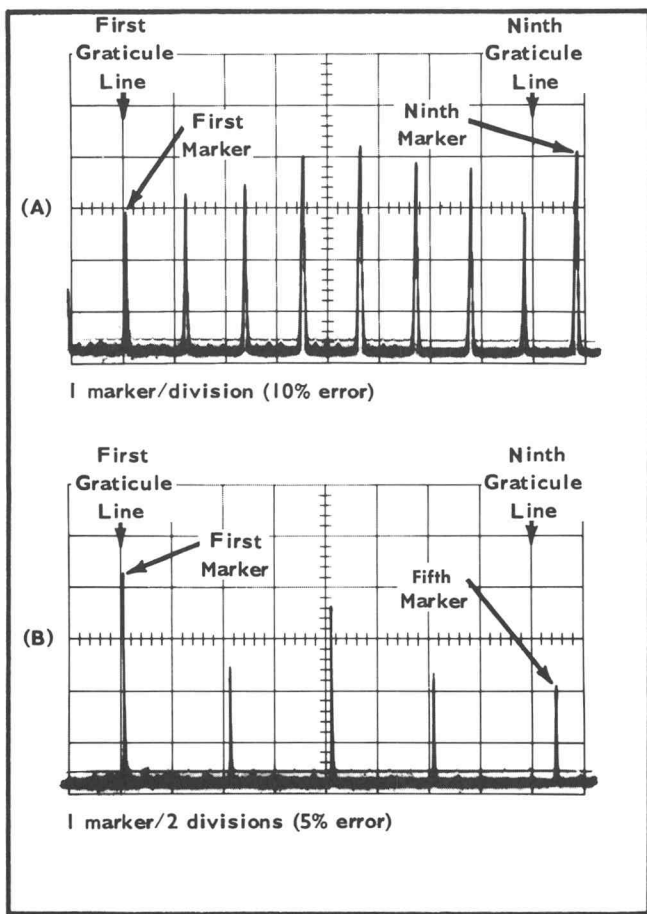

Fig. 5-4. Typical display for Dispersion Accuracy Check (Step 10).
f. Use Table 5-2 to check the dispersion accuracy at each DISPERSION/CM setting. Position a modulation pip at the first graticule line and check the ninth pip displacement from the ninth graticule line for displays having 1 division/marker; if the display has 2 divisions/marker, check the fifth marker displacement from the ninth line (see Fig. 5-4).